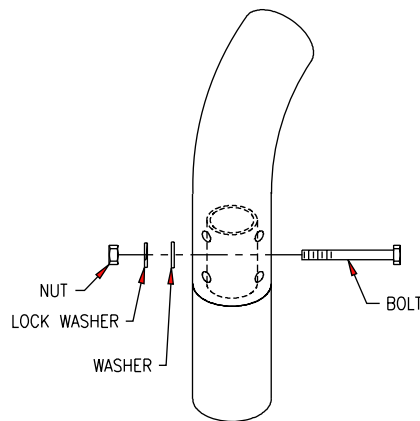

FIGURE 6
7. Loosen (8) set screws on bracket. Adjust orientation of luminaire and arm to proper alignment with court. Retighten (8) set screws.
8. Field-drill through tenon and secure bracket with supplied through-bolt. See Figure 6.